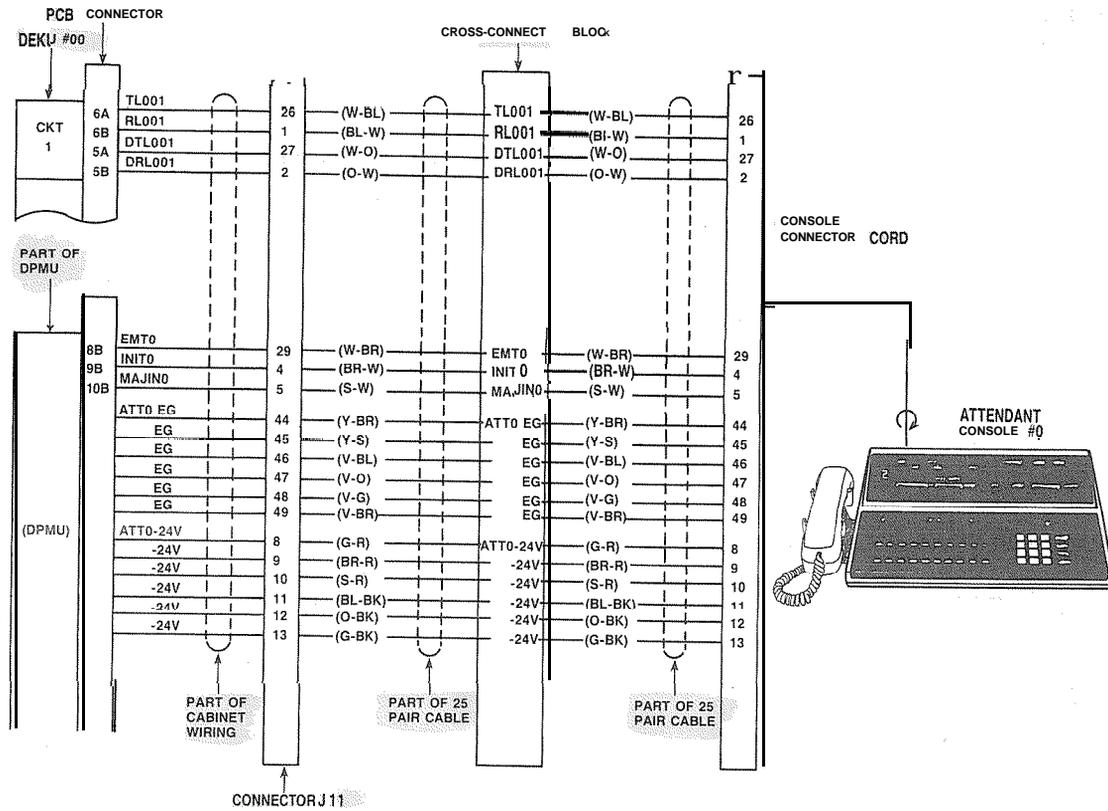

FIGURE 27—ATTENDANT CONSOLE #0 CONNECTION
08.22 Connection details for the attendant console are shown in Figures 27 and 28.